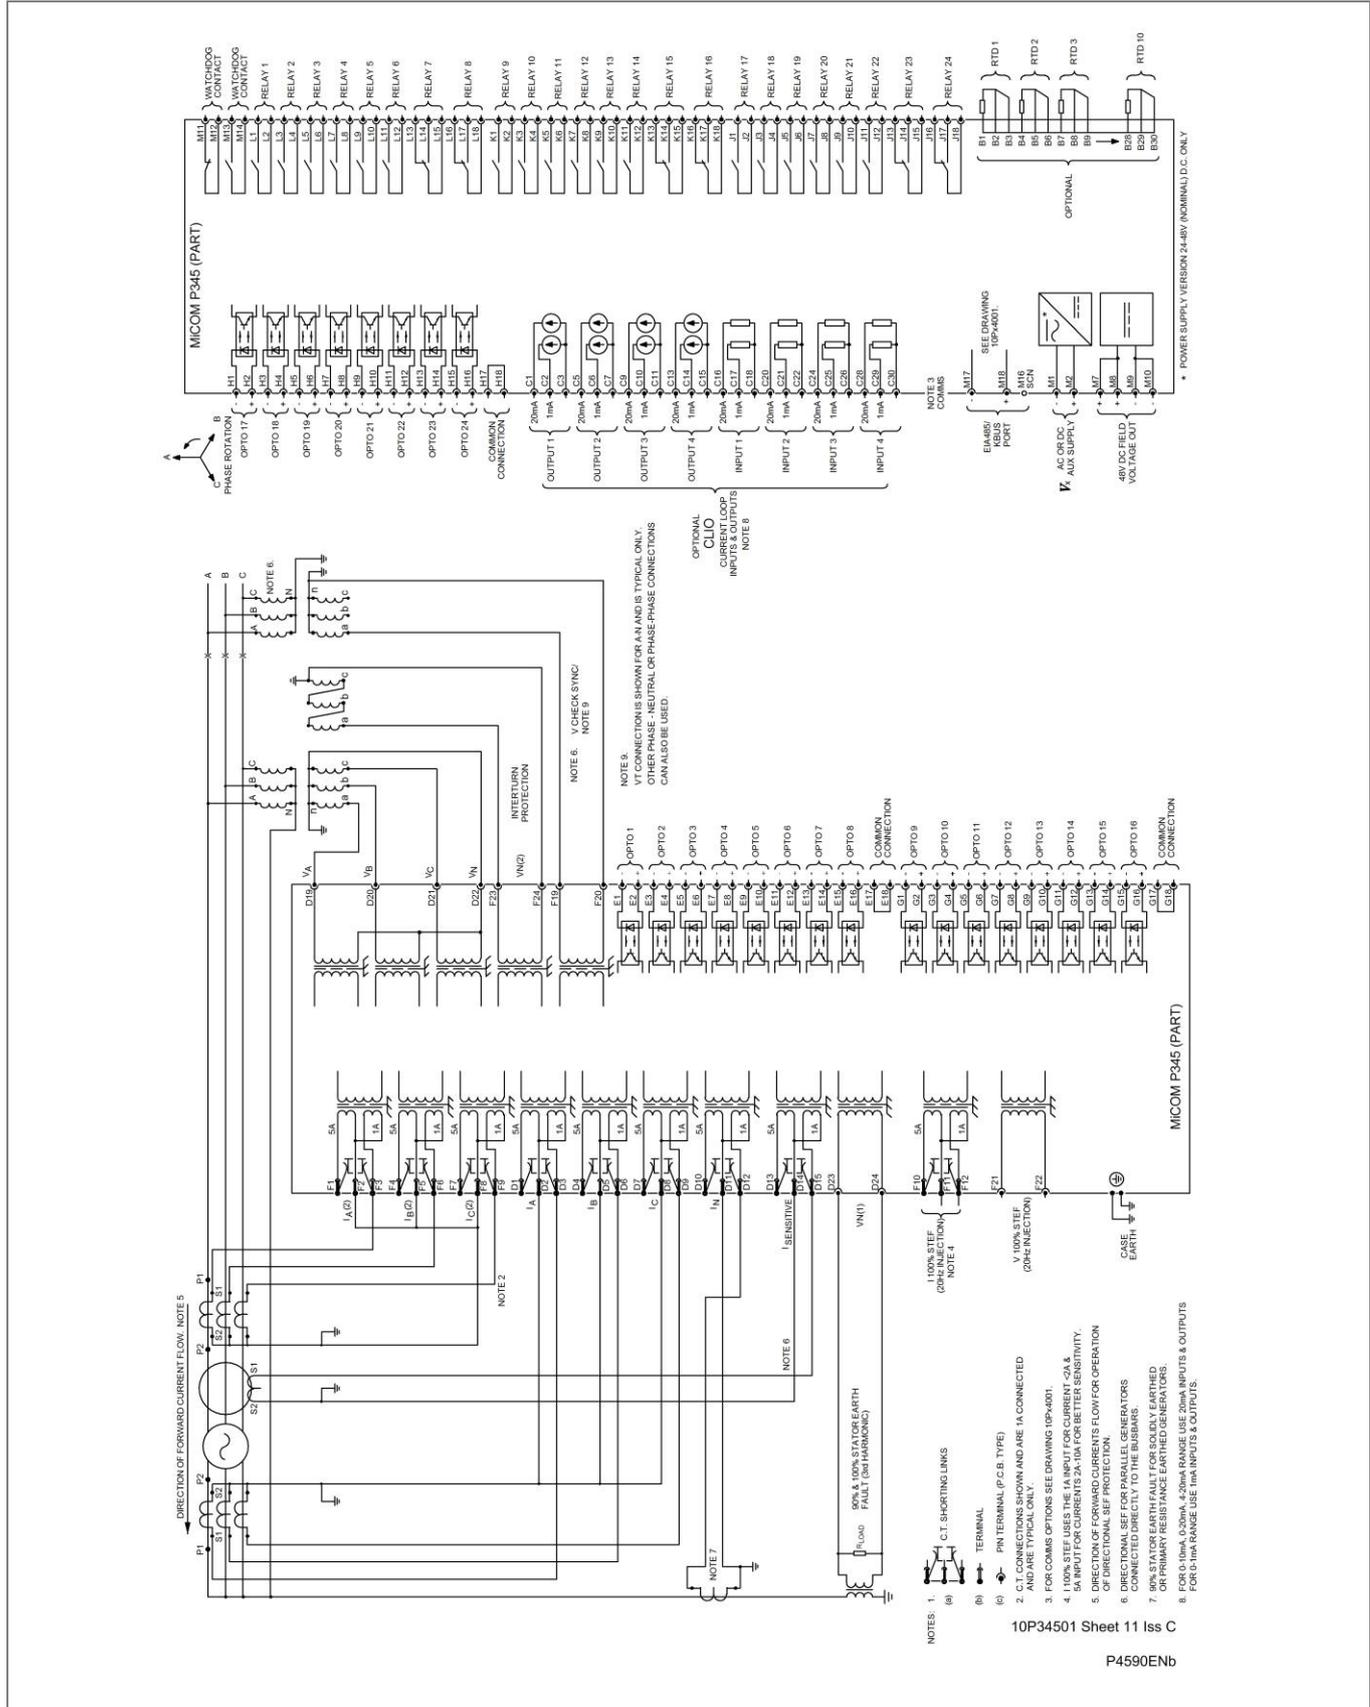

Figure 49 - P345 (80TE) for biased generator-transformer differential & check synchronizing (24 I/P & 24 O/P & CLIO & RTD)
- Figure 49 - P345 (80TE) for biased generator-transformer differential & check synchronizing (24 I/P & 24 O/P & CLIO & RTD)